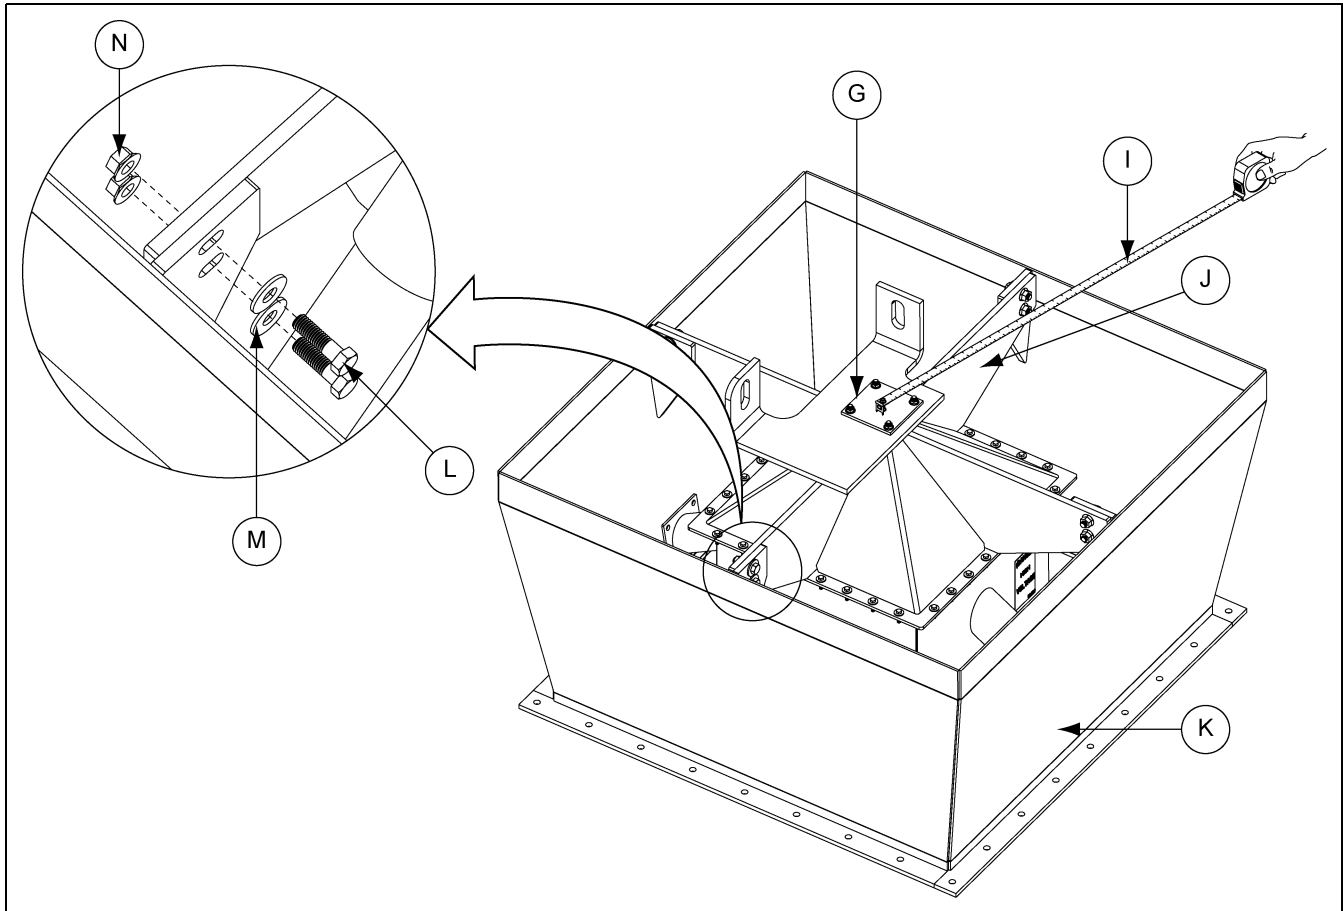

Figure 5B
5. Install the cross brace assembly (J) into center well (K). Temporarily attach cross brace flanges to center well using hex bolts (L), flat washers (M) and flange nuts (N). (See Figure 5B.)